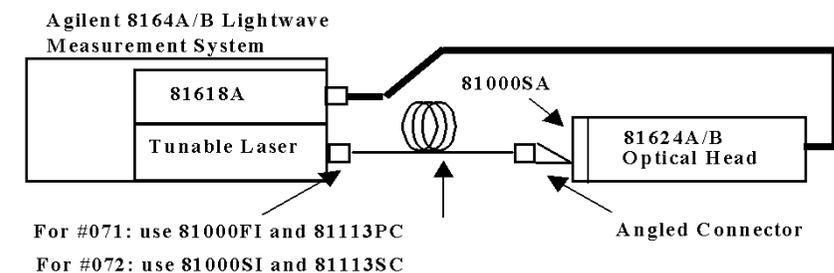

Figure 26 Test Setup for Power Linearity Tests
- 1 Set up the equipment as shown in Figure 26:
- 1 Set up the equipment as shown in Figure 26 on page 92.